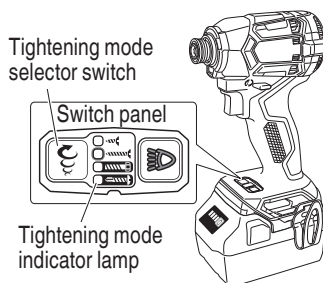

Fig. 16
9. Tightening mode selector function (Fig. 16)